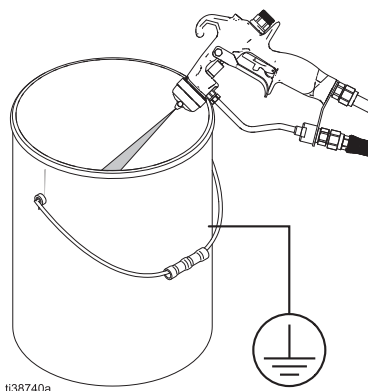

FIG. 11: Relieve gun pressure
5. Hold a metal part of the gun firmly to a grounded metal pail. Trigger the gun to relieve pressure. See FIG. 11.